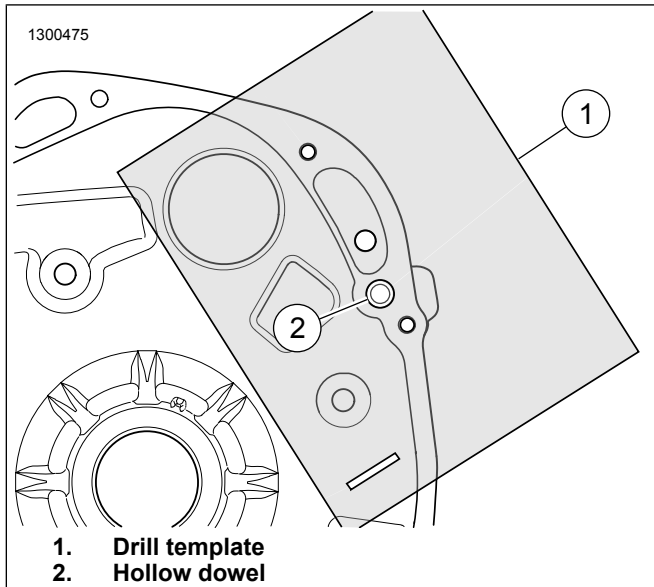

Figure 2. Drill Template
1. See Figure 2. Drill hole in primary case.
- a. Punch or cut out holes in drill template (1).
- b. Install drill template (1) onto hollow dowel (2).